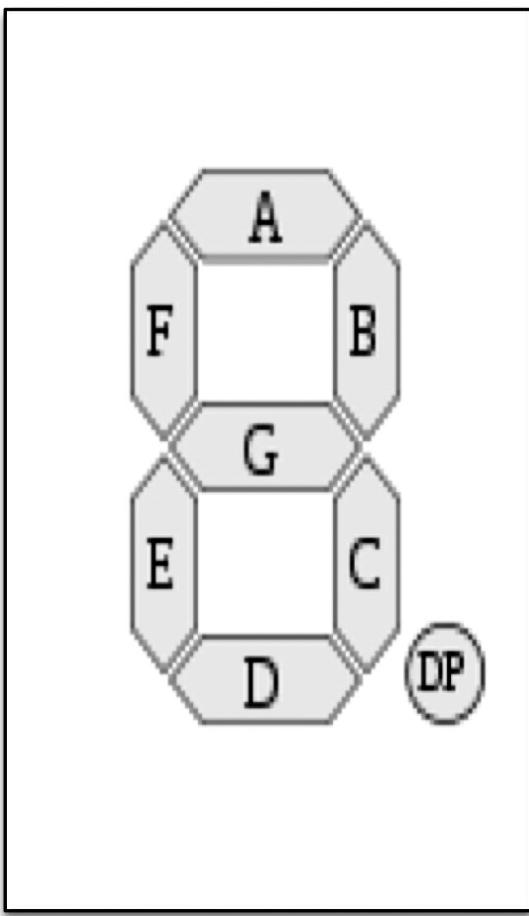

Figure 5-1 Seven-segment display.
Figure 5-1 shows how the segments of a seven-segment display are organized. Each segment is given a letter A–G with an additional connection to the decimal point (DP).
The `always` block synchronizes on the CLK and contains a new construct called a *case statement*. The case statement is a more concise way of writing a whole load of `if` commands that all have the same value as a condition. Here input D is the value of interest to the case statement. If D is 0, then the output segments (SEG) are set to the bit pattern `00000011`. A zero indicates that the segment should be lit. Thus, referring to Figure 5-1, this says that segments a, b, c, d, e, and f should all be lit, leaving just g (in the middle) and the decimal place unlit. Each value of D has its own bit pattern.